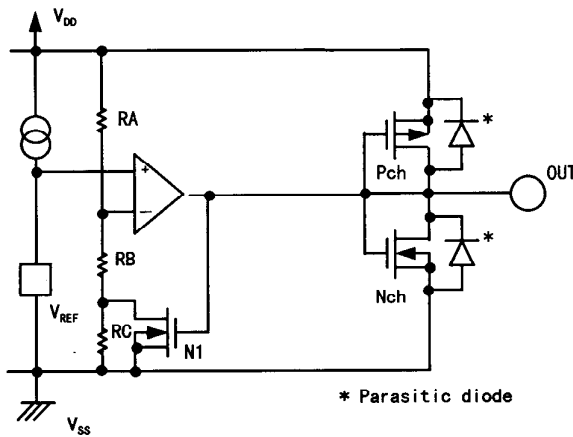
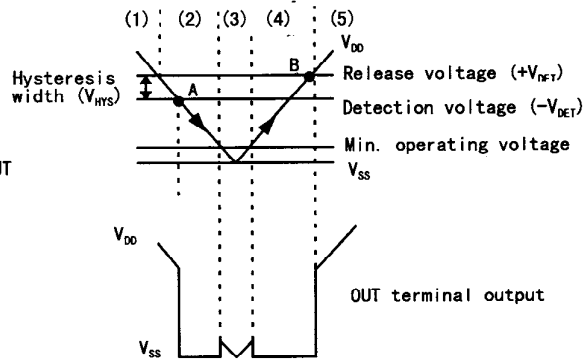

Figure 12
Figure 13
The hysteresis width is the voltage difference between the detection voltage and the release voltage ($B-A=V_{HYS}$ in Figure 13). By giving a device hysteresis, trouble such as noise at the input is avoided.
- (1) When power supply voltage V_{DD} is greater than the release voltage $+V_{DET}$, the Nch transistor is OFF and the Pch transistor ON, causing V_{DD} (high) to appear at the output. With the Nch transistor N1 of Figure 12 OFF, the comparator input voltage is $(RB+RC)/(RA+RB+RC) \times V_{DD}$.
- (2) When power supply voltage V_{DD} goes below $+V_{DET}$, the output maintains the power supply voltage level, as long as V_{DD} remains above the detection voltage $-V_{DET}$. When V_{DD} does fall below $-V_{DET}$ (A in Figure 13), the Nch transistor goes ON, the Pch transistor goes OFF, and V_{SS} appears at the output. With the Nch transistor N 1 of Figure 12 ON, the comparator input voltage is $RB/(RA+RB) \times V_{DD}$.
- (3) When V_{DD} falls below the minimum operating voltage, the output becomes undefined. However, output will revert to V_{DD} if a pull-up has been employed.
- (4) V_{SS} will again be output when V_{DD} rises above the minimum operating voltage. V_{SS} will continue to be output even when V_{DD} surpasses $-V_{DET}$, as long as it does not exceed the release voltage $+V_{DET}$.
- (5) When V_{DD} rises above $+V_{DET}$ (B in Figure 13), the Nch transistor goes OFF, the Pch transistor goes ON, and V_{DD} appears at the output.